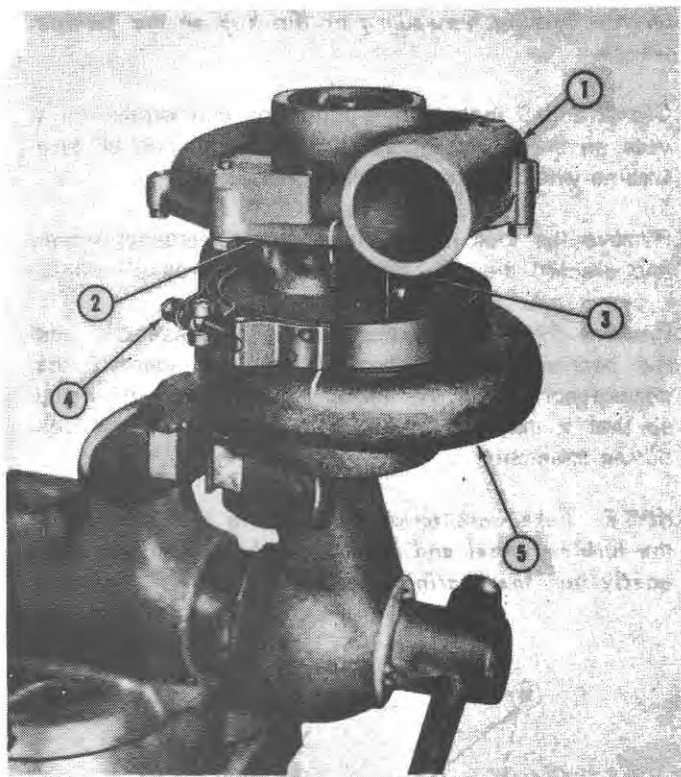

Figure 4
1. Mark the relative positions of the compressor cover, the bearing housing, and the turbine housing, Figure 4, before disassembling the turbocharger to aid in reassembling the unit.